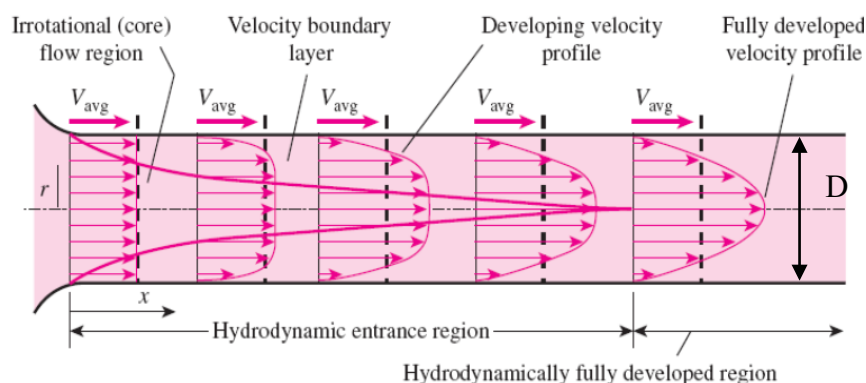

Figure 5
5. After a distance from the tube entrance, the velocity profile of fluid flow in a long straight tube become fully developed, where the velocity profiles no longer changes along the axial direction, as illustrated in Figure 5. As the shear stress ( $\tau_w$ ) in the tube is assumed to be a function of average velocity ( $V_{avg}$ ), pipe diameter ( $D$ ), fluid density ( $\rho$ ), and fluid viscosity ( $\mu$ ). Using the Pi theorem, derive the appropriate dimensionless group.